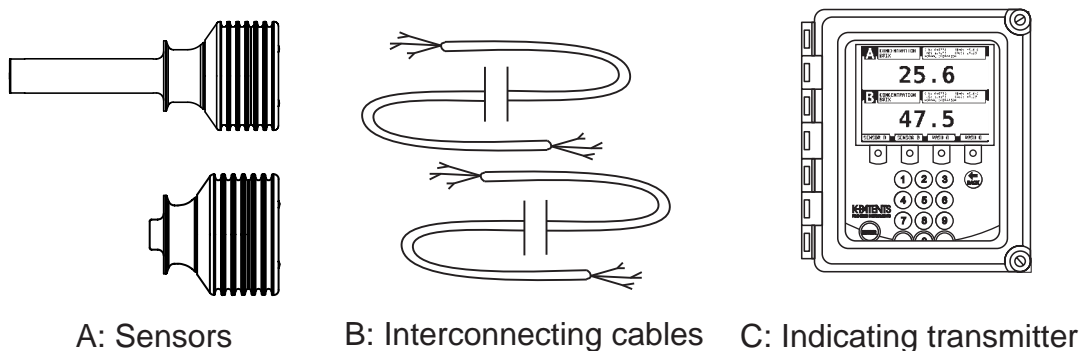

Figure 1.1 Refractometer equipment
The inline refractometer sensor (in Figure 1.1) measures the refractive index n_D and the temperature of the process medium. This information is sent via the interconnecting cable (B) to the Indicating transmitter (C). The Indicating transmitter DTR calculates the concentration of the process liquid based on the refractive index and temperature, taking pre-defined process conditions into account. The output of the DTR is a 4 to 20 mA DC output signal proportional to process solution concentration. Process data can also be downloaded to a computer via an Ethernet cable.